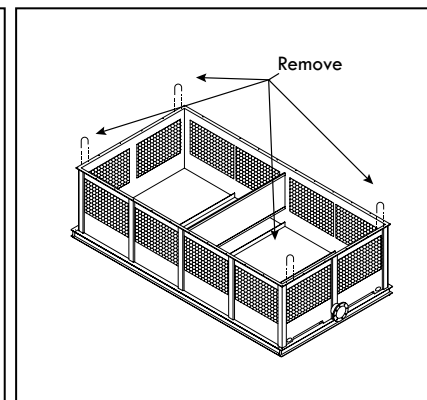

Figure A-48: Removing U-bolts from basin section of an RTG and RTGTC model.
- I.** After the basin has been set in place, remove the U-bolts located on the flange before installing the next section (see Figure A-48).